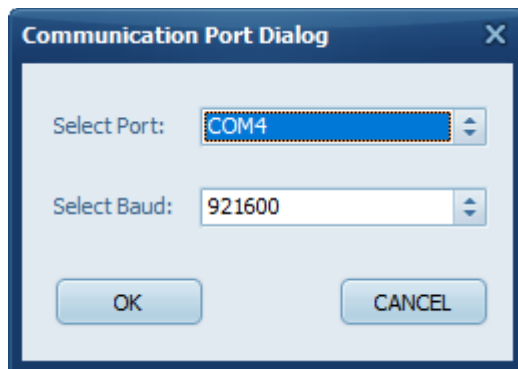

Figure 2 - Port settings dialogue
- Once pressed, a communication port configuration window will pop-up. (see: Figure 2)